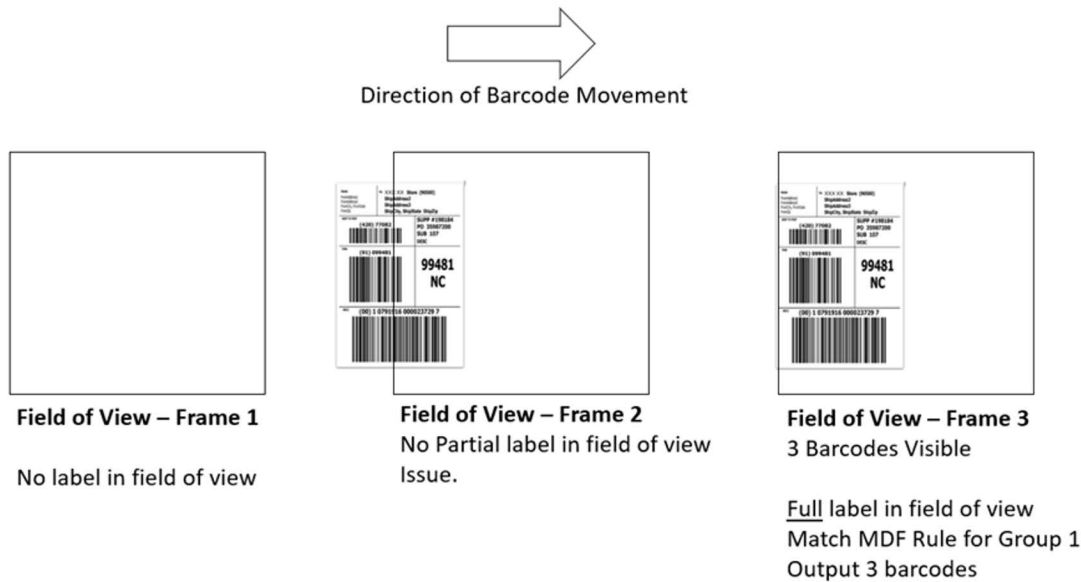

Figure 16-2 Scanning Label in a Vertical Orientation
- Scan barcodes in a vertical orientation (see Figure 16-2).